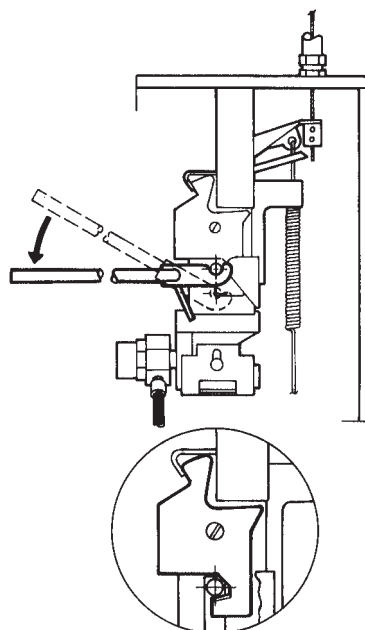

FIGURE 5
16. Cock the regulated release mechanism using cocking lever (Part No. 14995). See Figure 5.